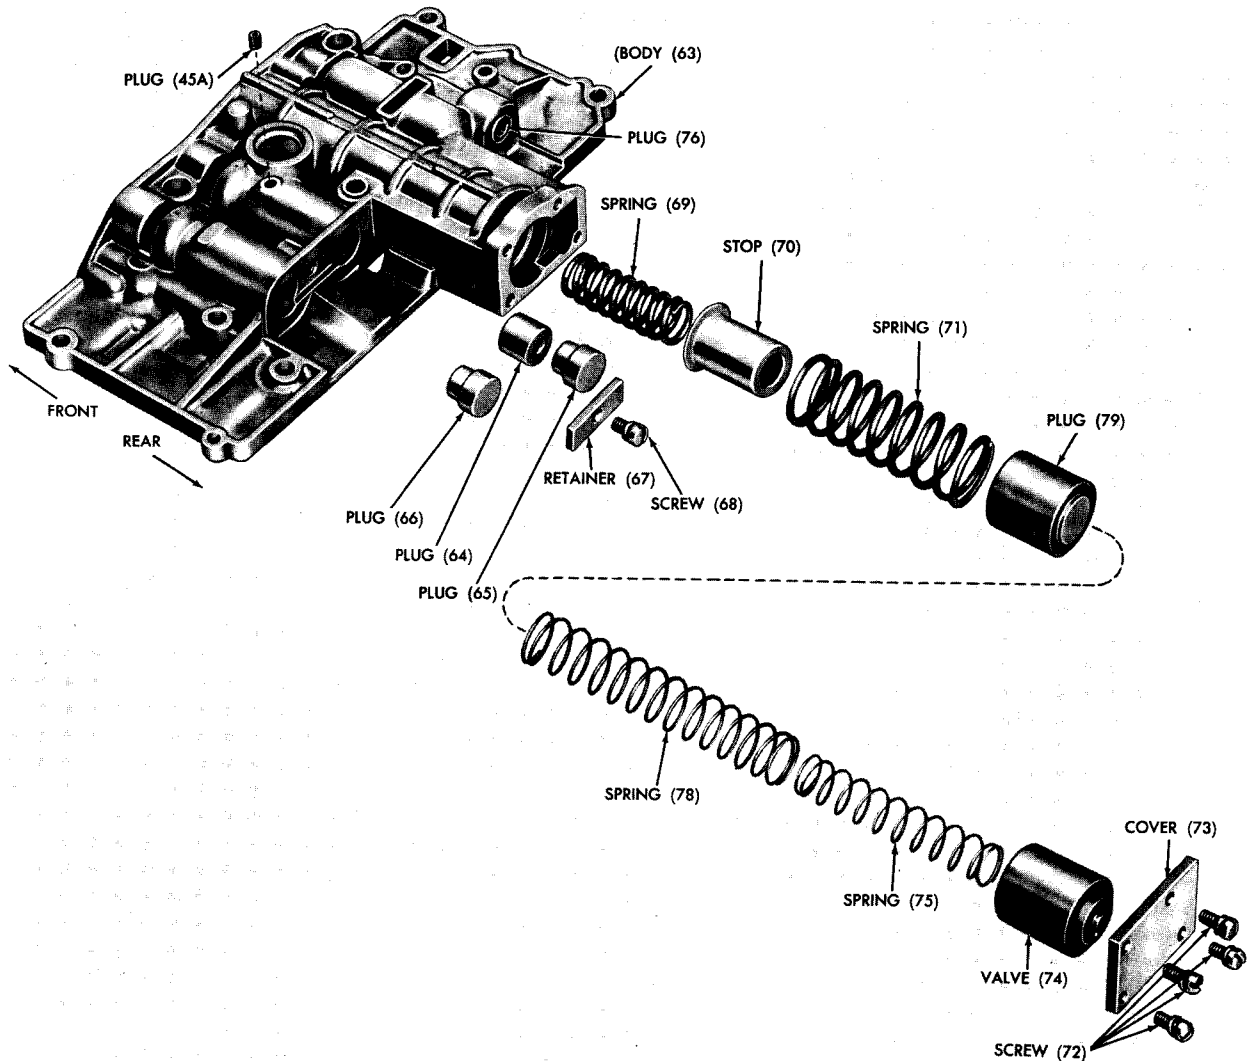

Fig. VIII-1 Exhaust regulator valve body, rear end — exploded view
(1) General. The control valve body assembly is assembled as illustrated in fig. VIII-1 through VIII-16. In the procedures, below, all parts are identified by callout numbers used in foldout 8 in the back of the manual. All parts for all model variations are shown in fig. VIII-1 through VIII-16 and explained in the text.
(2) Exhaust regulator valve body, rear end (fig. VIII-1)